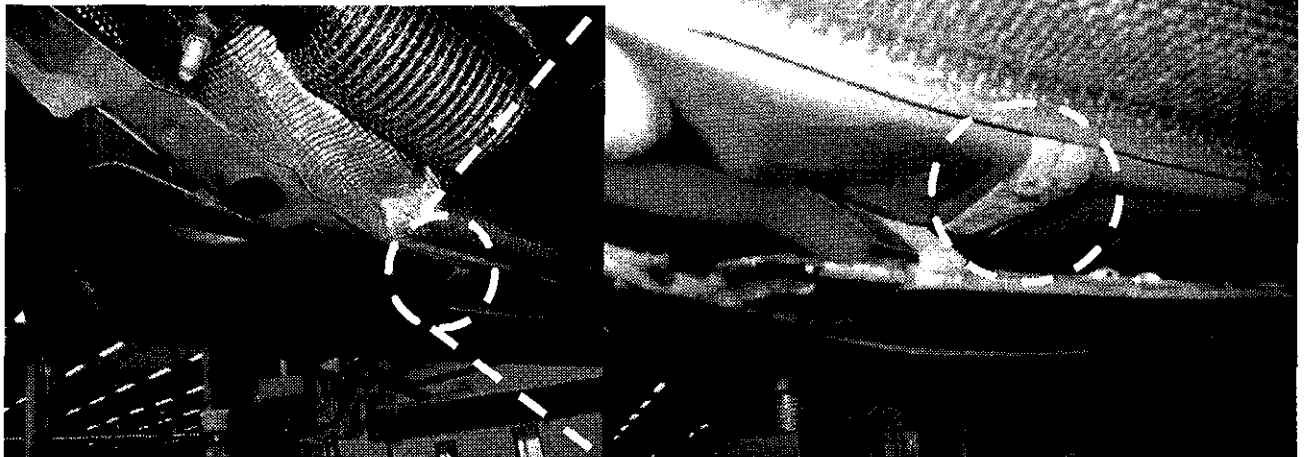

Figure 2
2.  Pull away under-floor paneling using plastic wedge and check seal seam at left and right main floor longitudinal member for damage (circled, Figure 2):
- If seal seam (circled) is **not** damaged (OK): Procedure is complete, assemble in reverse order.